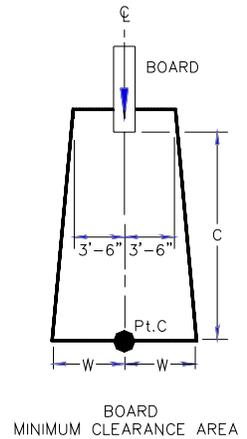

FIG. 4
- B. The minimum clearance area in front of a properly installed diving board on an inground swimming pool is a minimum distance of three feet six inches (3'-6") on either side of the board's centerline as shown in **FIG. 4**. Pt. C extends a minimum distance of "C" from the tip end of the board as shown in **FIG. 4**. The width distance "W" on either side of Pt. C is given in CHART 1 and shown in **FIG. 4**.